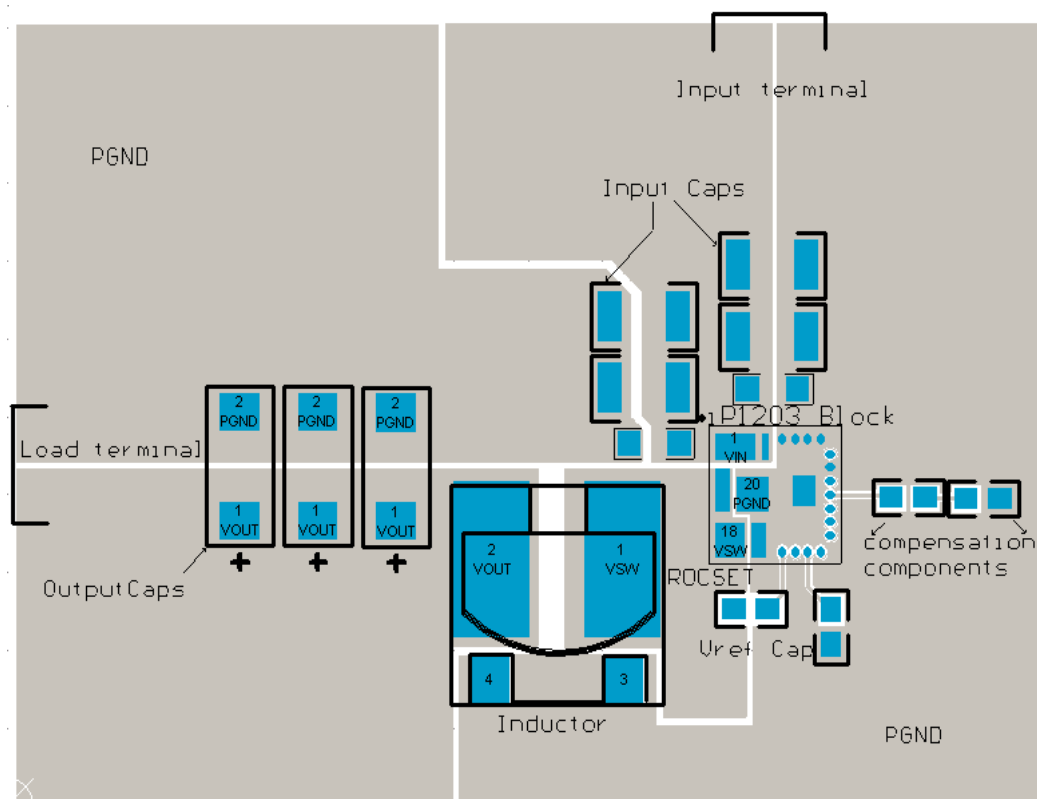

Fig. 23: iP1203 Suggested Layout
1. Follow the layout scheme presented in Fig. 23. Make sure that the output inductor L is placed as close to iP1203 as possible to prevent noise propagation that can be caused by switching of power at the switching node V_{sw}, to sensitive circuits.